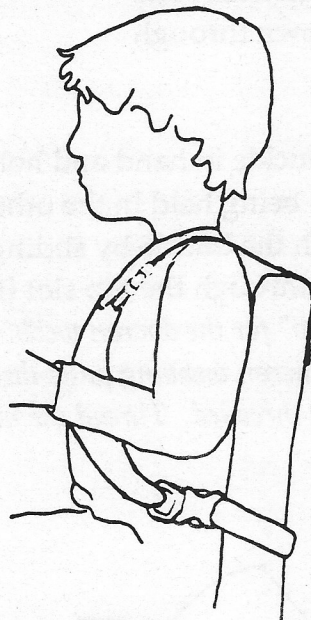

Figure 7
- i. Mark the points on the seating system where the dacron webbing straps are to be mounted. To do this, fasten all four buckles and hold the Custom Trunk Support in proper position against the individual's chest. Pull the top straps to the "back" and the bottom straps to the side "edge" of the seating system (see Figure 7). Make sure that the mounting points maintain the angle of each strap of the Custom Trunk Support. Adjust the length of the dacron as necessary by pulling it through the male part of the buckle and the tri-glide. The dacron webbing may be trimmed if it is too long. (However, remember to leave enough dacron webbing to accommodate winter clothing and growth.)